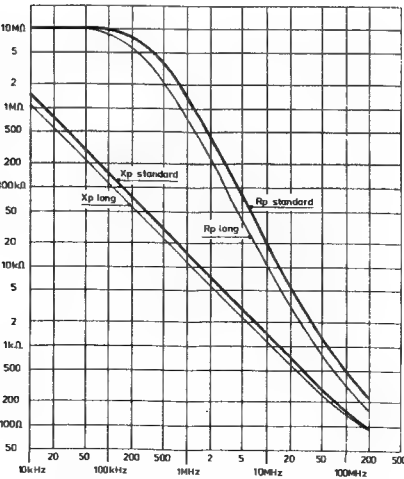

Fig. 3.26. Input resistance (R_p) and reactance (X_p) versus frequency.
a.c.	See curve Fig. 3.26.
Input reactance h.f.	See curve Fig. 3.26.